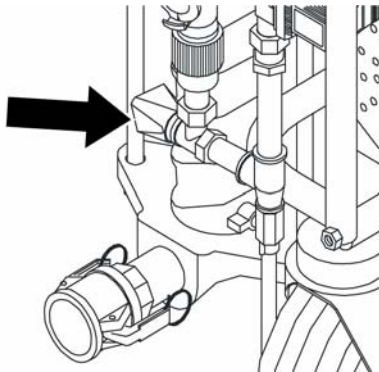

Fig. 29: Needle valve
4. Then set the anticipated water quantity on the needle valve (Fig. 29/arrow). Heed the specifications provided by the manufacturer of the material for the correct water quantity.